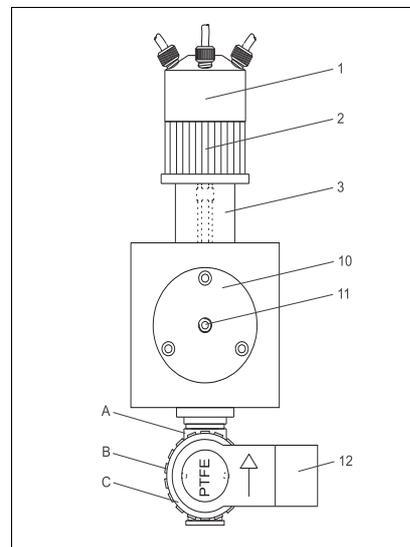

Fig. 34: Front view of the measuring cell
3. Release the GL cap (fig. 34, item **2**) from the dosing element (**1**).